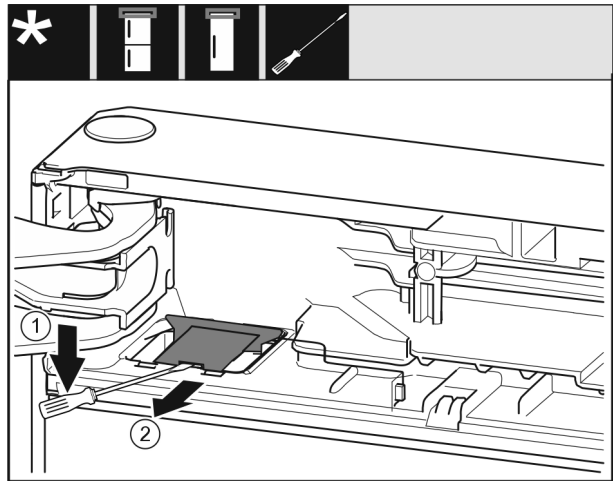

Fig. 12
- Use a flat-blade screwdriver to disengage the cover Fig. 12 (1).
- Remove the cover Fig. 12 (2).